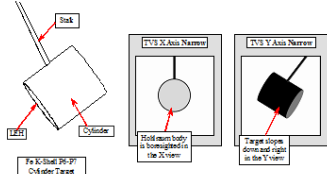

Figure 1: Target Rotation Alignment
2. Rotate target using  $\odot$  axis until the Cylinder body appears bore-sighted through its LEHs, as shown in Figure 1. Ensure that your final move is in the CW direction.